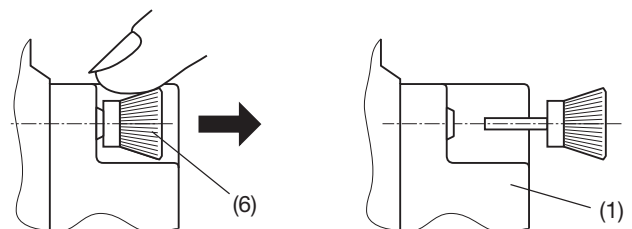

Fig. 4
To release the module, pull out the plastic clips by the knurled knob (6) with the fingers (fig. 4). The extension module (1) can now be removed.